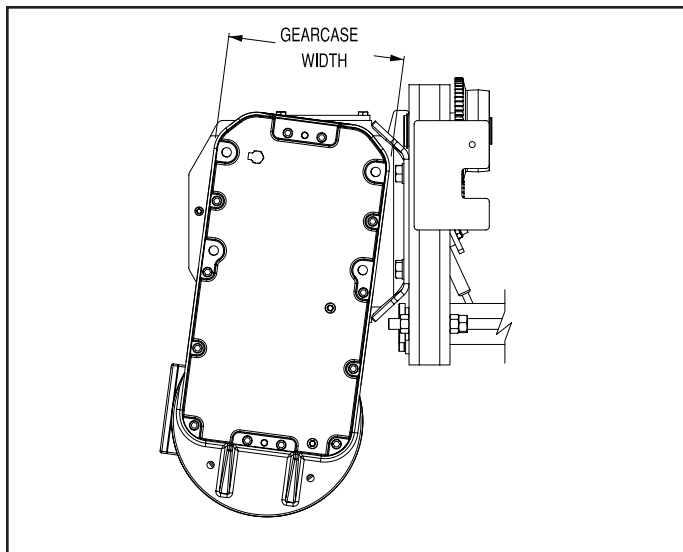

Figure 4-2. Gearcase Width Illustration
- e) Refill through filler hole to proper level (bottom of oil level plug hole) using **GCOH** (Paragraph 4-7). The amount of oil required depends on the overall size of the gearcase; three sizes are used for "Global King" hoists. To determine size and amount of oil to add, measure the width of hoist gearcase (see Figure 4-2). The "B" Frame measures 9-3/4" wide and requires approximately 5 quarts of oil. The "C" Frame measures 12-1/2" and requires approximately 11 quarts of oil. The "D" Frame measures 17" and requires approximately 12 quarts of oil.